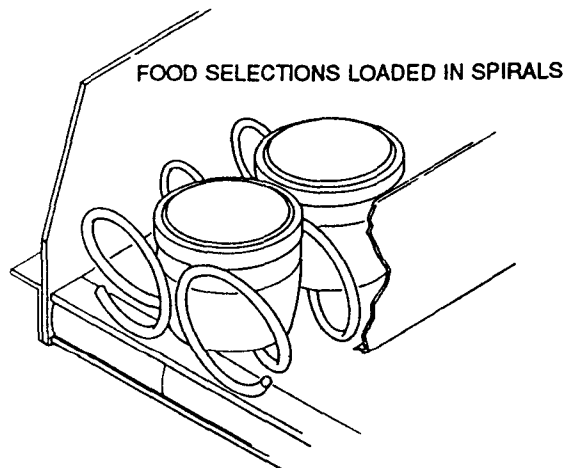

Figure FD-3b
- * Load each of the spiral selections as shown. See Figure FD-3b.